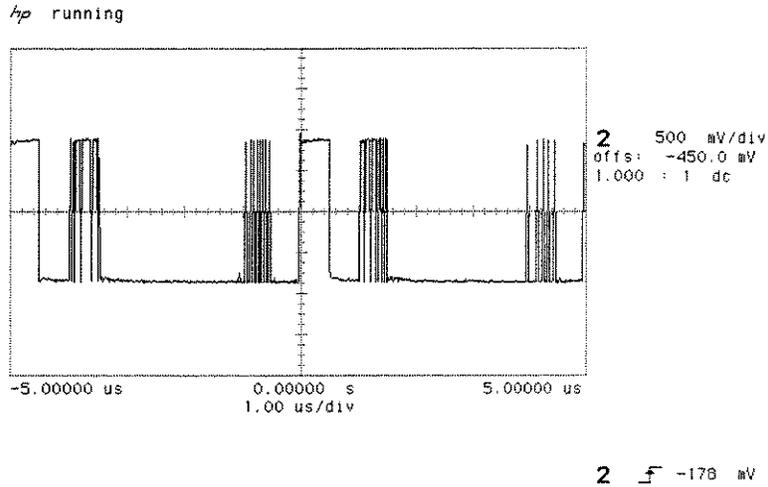

Figure 3-14. Two-Burst Waveform after Autoscale
- Press **AUTOSCALE**. See figure 3-14.